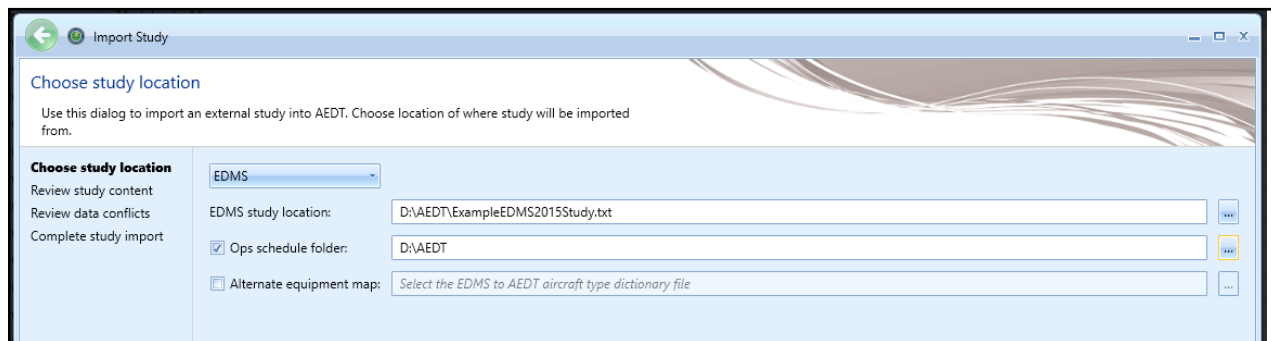

Figure 33 - Choose study location
2. Click the *Study* tab and click *Import* to display the *Import Study* dialog (Figure 33).